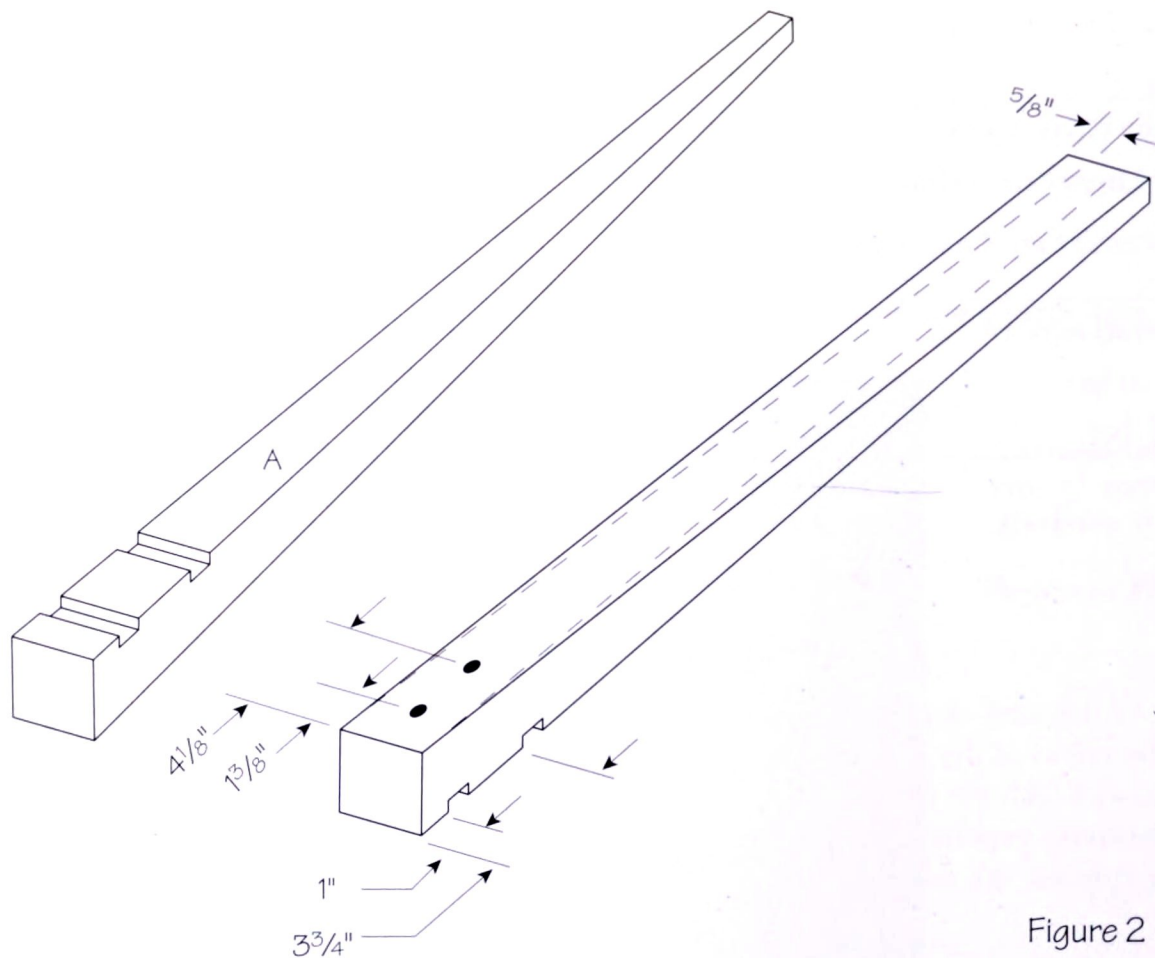

Figure 2
6. Cut two dadoes on the inside face of each leg for the shelves. Each dado is $\frac{3}{4}$ " wide and $\frac{1}{4}$ " deep. They begin at 1" and $3\frac{3}{4}$ " below the top of the leg, leaving 2" between the shelves (see figure 2). Notice that the dadoes are cut square into one of the tapered sides: the inside of each leg will be vertical. You kept two sides of the legs untapered to facilitate cutting the dadoes on the table saw with the help of a drop stop or the rip fence.
8. With the dadoes facing down, mark $\frac{5}{8}$ " in from each edge at the bottom of the legs. Draw a straight line between those marks and the corners at the top of each leg (see figure 2). Saw the tapers and clean them up on the jointer or by hand.